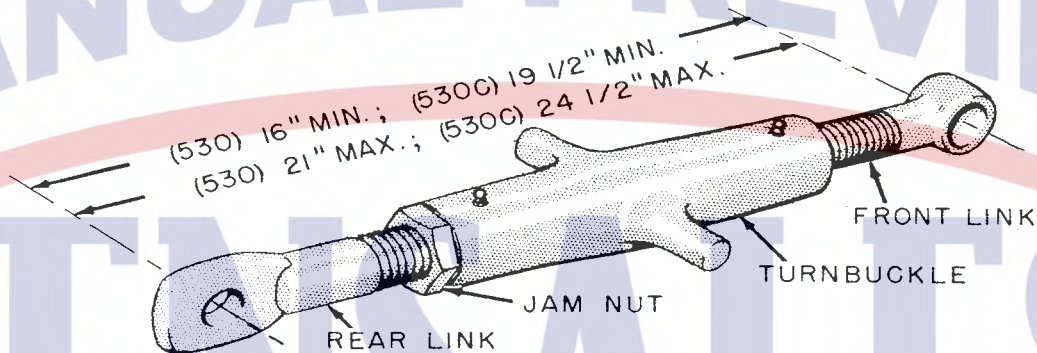

Fig. 72. Turnbuckle Adjustment
1. **Turnbuckle Link** — This adjustable link can be lengthened or shortened by turning the turnbuckle. Each mounted implement will require a different setting, (see the implement operating manual). Fig. 72 shows the maximum and minimum length. Never lengthen the turnbuckle to exceed that which is shown below, center to center of eyes.